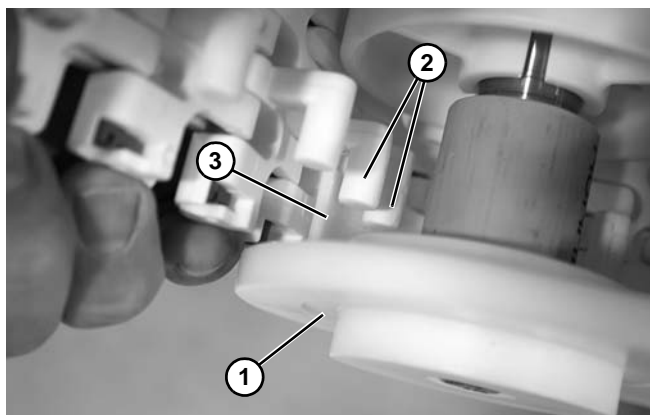

Figure 11
3. Wrap the belt around the idler tail (**Figure 11, item 1**). Feed the belt through the idler tail with belt tabs (**Figure 11, item 2**) riding on the inside of the headplate channel (**Figure 11, item 3**).